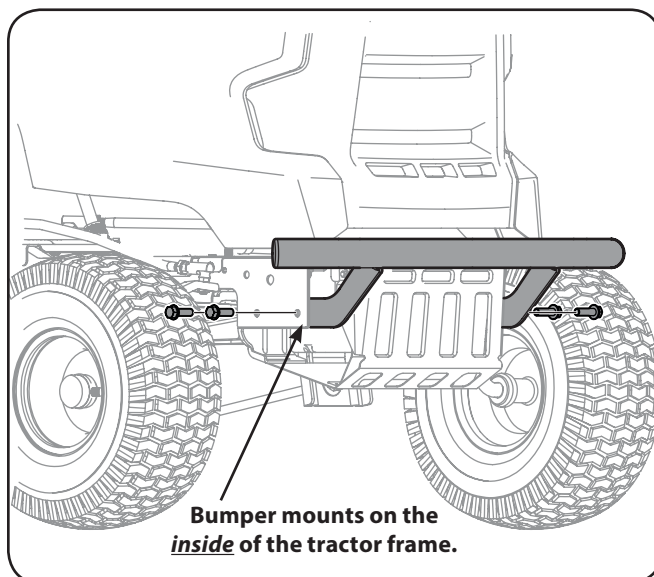

Figure 1-3
2. Position the bumper brackets to the *inside* of the tractor's frame and secure it in place with the four hex flange screws or four hex screws and four flat washers, depending on what this kit includes. See Figure 1-3.